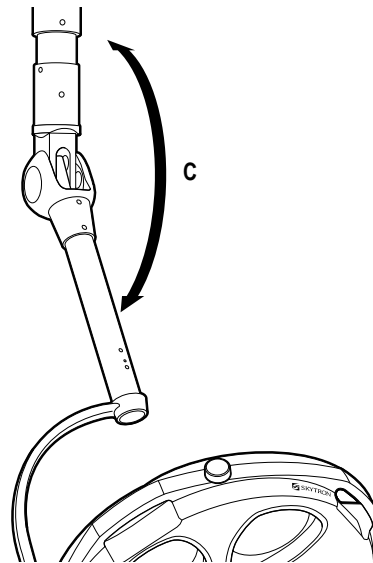

Figure 2-8. Lighthouse Vertical Travel
a. Check the adjustment of the Balance Mechanism for its capacity to support the lighthouse throughout its range of vertical motion. See figure 2-8.